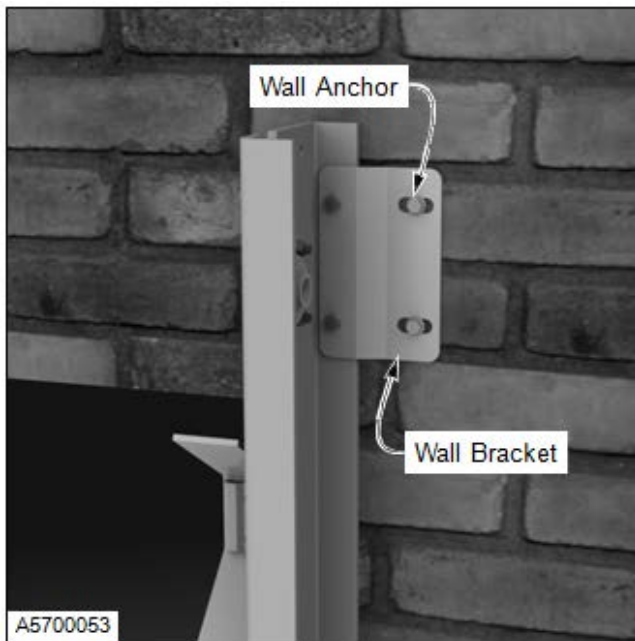

Figure 11
- Anchor the wall bracket. DO NOT tighten the anchors securely at this time — they will be tightened after the head assembly is installed. (See Figure 11)